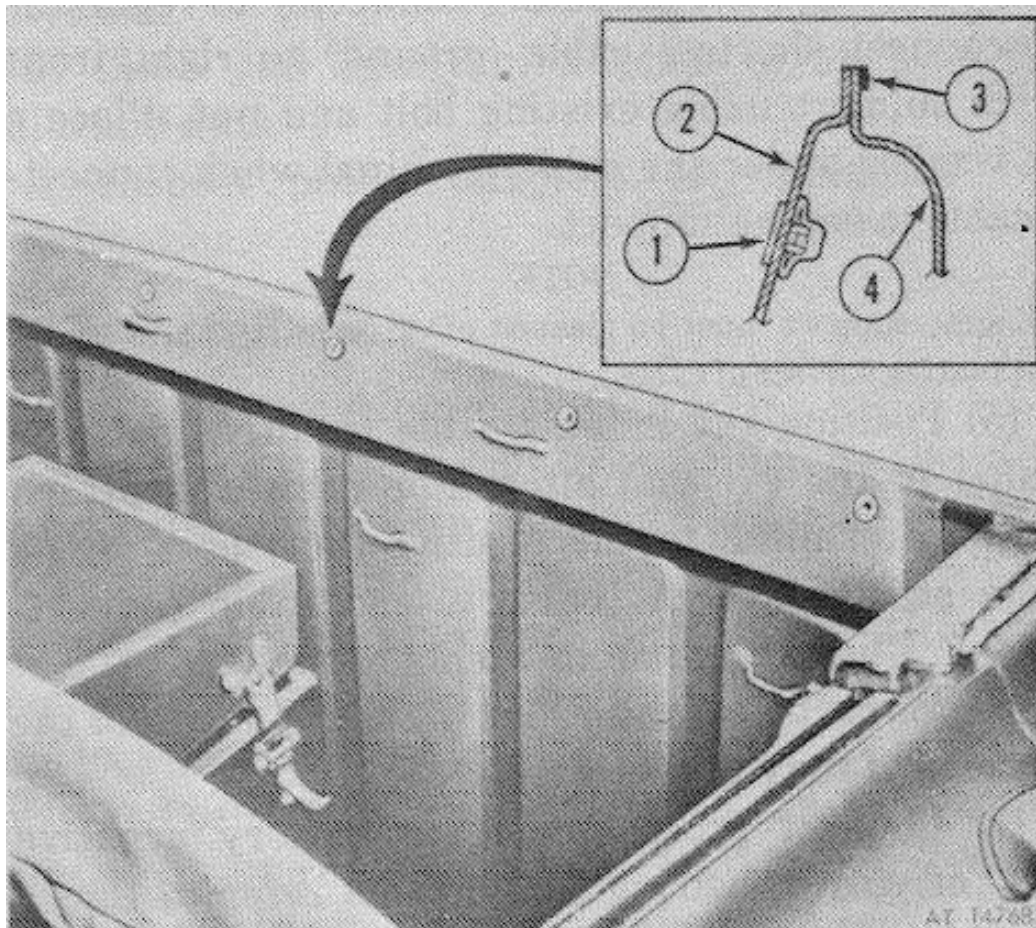

Figure 3-14. Vehicle back panel preparation.
- a. Install sealant to all mating surfaces (fig 3-14).